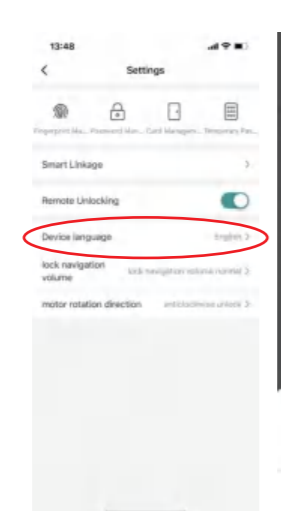

Figure P-10
(10) Choose Languages(Figure P-10)